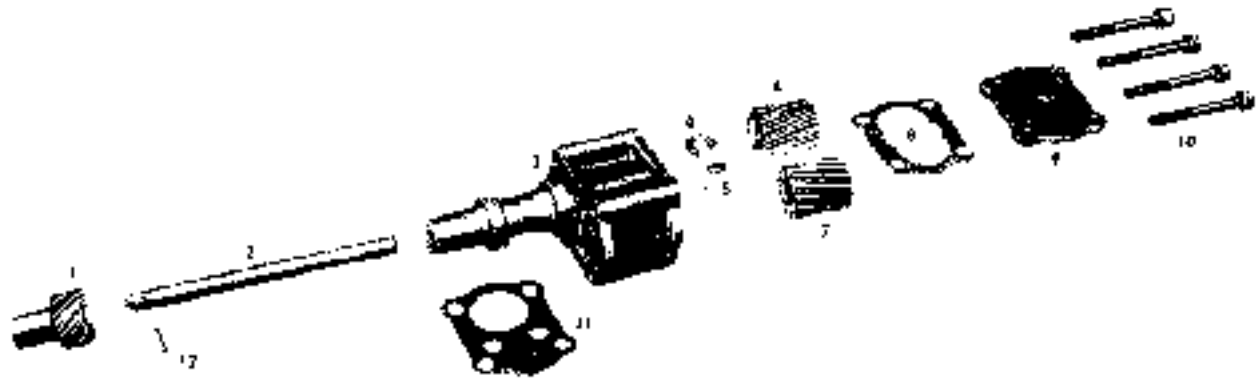

FIG. 376
With the horseshoe-shaped thrust washer (4, Fig. 376) and the Woodruff key (5) in place, press the oil pump drive gear (6) on the drive shaft (2). After inserting the drive shaft in the oil pump body (3), press the drive shaft gear (1) on the shaft, being sure to align the holes in the gear and the shaft. Then lock the gear on the shaft with a new $3/16$ " (4.76 mm.) pin (12) and open the pin securely in position.